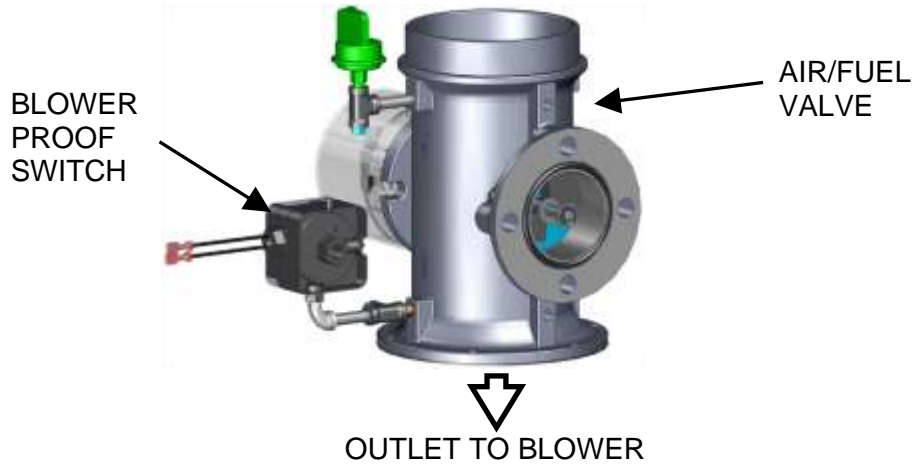

Figure 3-5: Blower Proof Switch
6. Next, the **Blower Proof** switch on the Air/Fuel Valve (Figure 3-5) closes. The display will